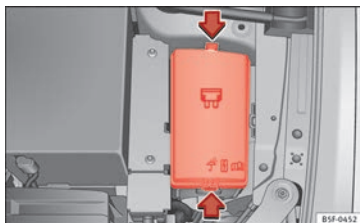

Fig. 104 In the engine compartment: fuse box cover.
- Press the locking tabs to release the fuse box cover »» **Fig. 104**.